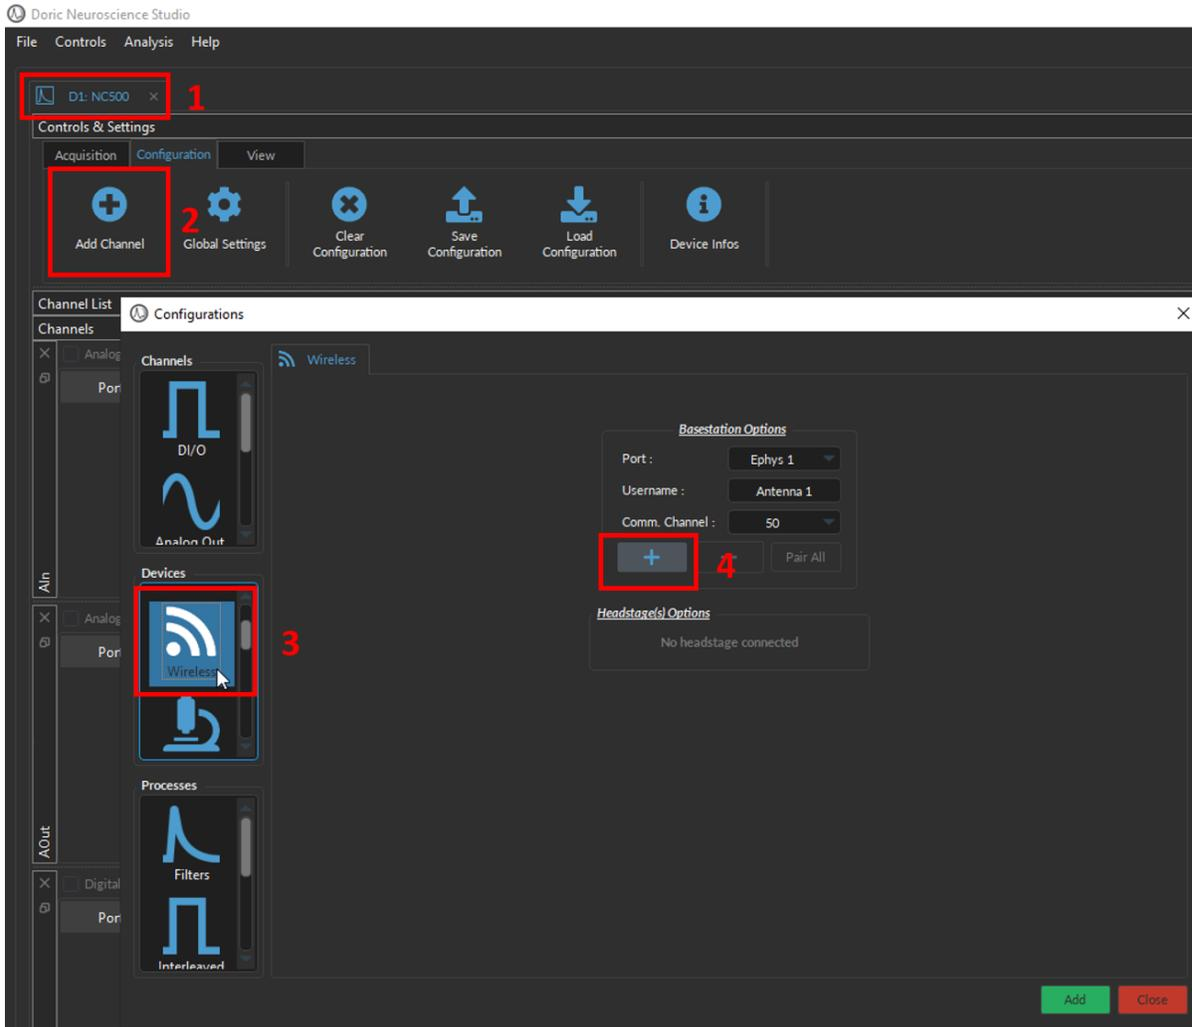

Figure 2.5: Add base station
- Now, in the console's "Configuration" tab, click on "Add Channel". Then, in the "Devices" menu, select the "Wireless" option (Figure 2.5).
- Start with the default "Comm. Channel" and click the "+" key (Figure 2.5).